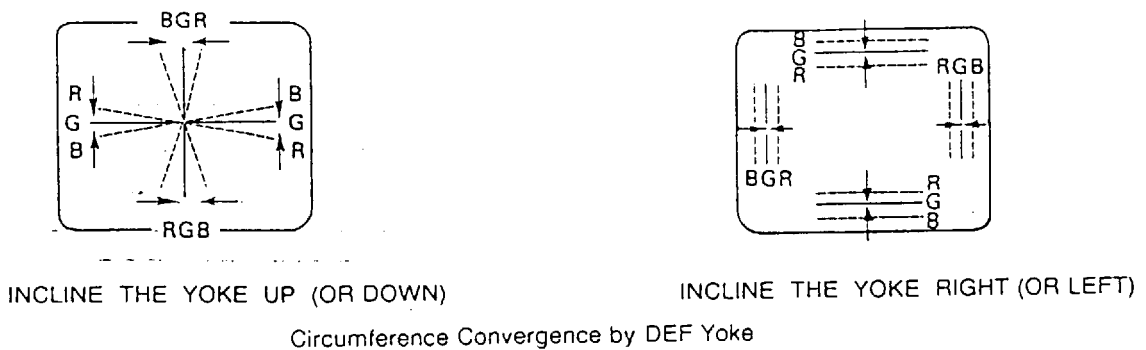

Figure 6. Dot Movement Pattern.
3. Adjust two tabs of the 4-Pole Magnets to change the angle between them (See figure 5.) and superimpose red and blue vertical lines in the centre area of the picture screen. (See figure 6.)
4. Turn the both tabs at the same time keeping the constant angle to superimpose red and blue horizontal lines at the centre of the screen. (See figure 6.)
3. Tilt front of the deflection yoke up or down to obtain better convergence in circumference. (See figure 6.) Push the mounted wedge into the space between picture tube and yoke to fix the yoke temporarily.
5. Tilt front of the yoke right or left to obtain better convergence in circumference. (See figure 6.)